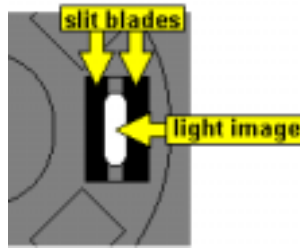

Figure 88 Aligning the light
12. Move the left fibre holder until the light is central on the slit, as shown in Figure 88.